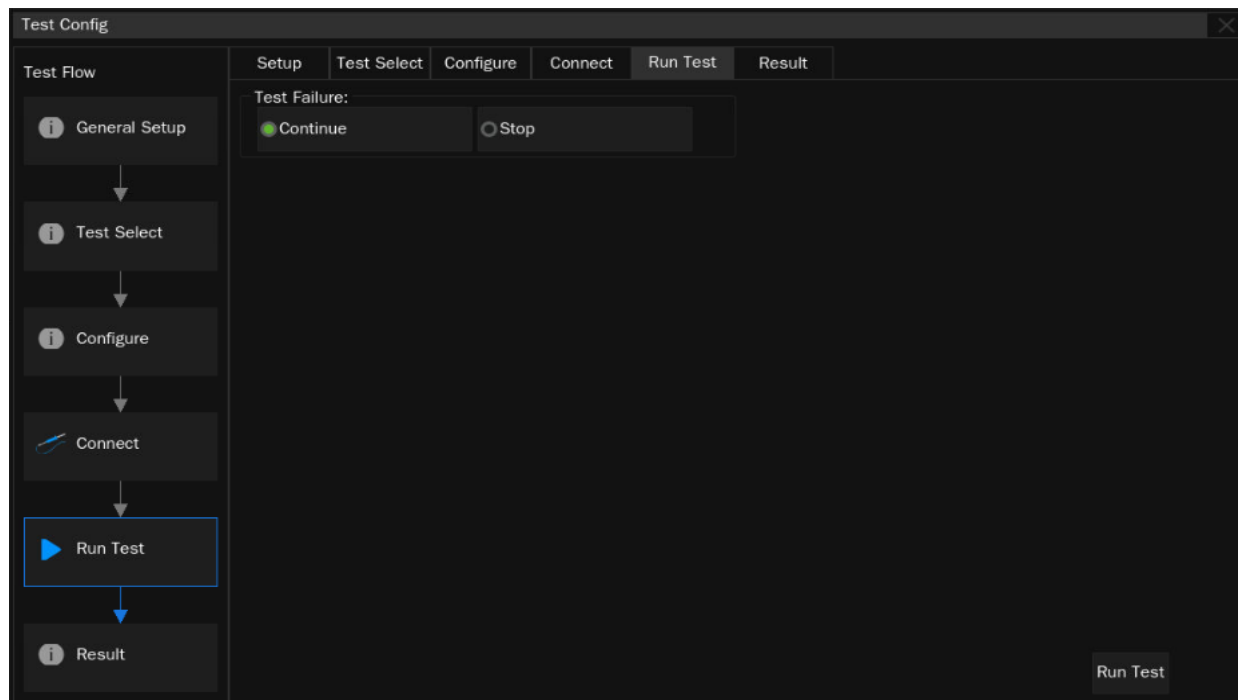

Figure 4-6 Run Test window
- **Run Test:** The Run Test window is shown in Figure 4-6. Both **Continue** and **Stop** options are supported when meets test failures.